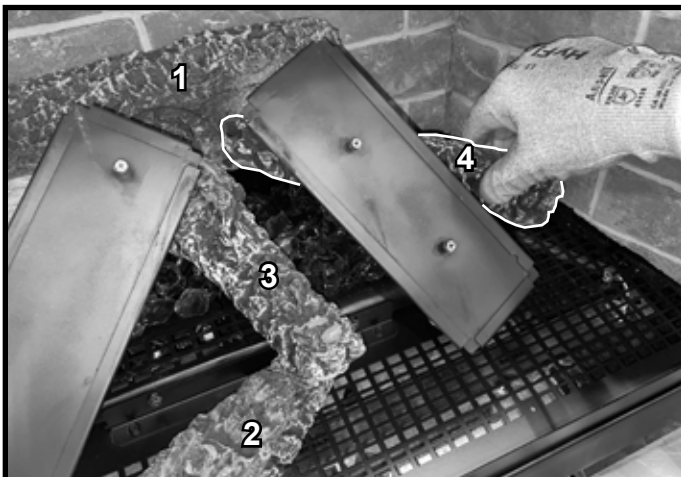
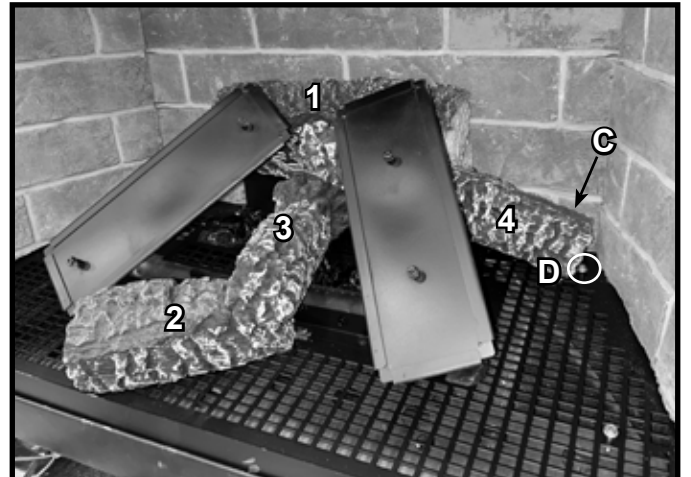

Figure 8 Position Log #4
Figure 9 Log #4 Installed
**LOG #4:** Position Log #4 from the right side as shown in Figure 8. Rest the pointed end on Log #3. Rotate the right side of the log counterclockwise until it contacts Log pin C and Log Pin D and Log #1. See Figure 9.